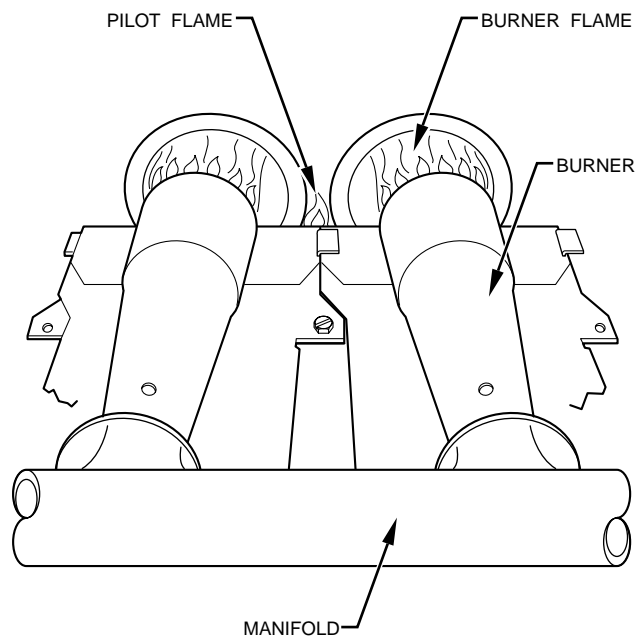

Fig. 7—Burner Flame
2. When correct input is obtained, replace regulator seal cap. Main burner flame should be clear blue, almost transparent. (See Fig. 7.)
10. Check for correct burner flame. (See Fig. 7.)
11. Check for correct burner flame. (See Fig. 7.)